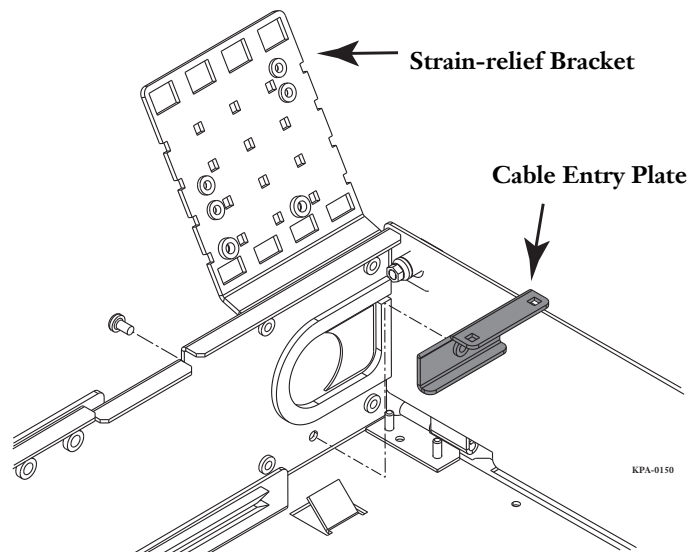

Figure 5 — Install Cable Entry Plate
- Step 4:** Install cable entry plate using the provided screw (Figure 5) at the location where the cable will enter the housing.
- Step 5:** Install the strain-relief bracket to the side of the housing (Figure 5) at the location where the cable will enter the housing.